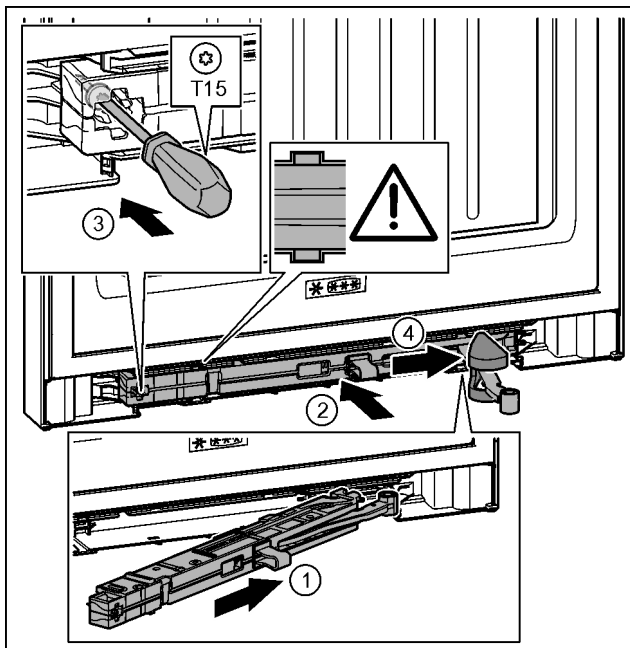

Fig. 44
- ▶ Slide the soft stop mechanism on the bearing bracket side at an angle into the slot as far as the limit stop. Fig. 44 (1)
- ▶ Slide the soft stop mechanism fully into the slot. Fig. 44 (2)
- ▶ Tighten the screw with the T15 screwdriver. Fig. 44 (3)
- ▶ Push the cover over the hinge. Fig. 44 (4)